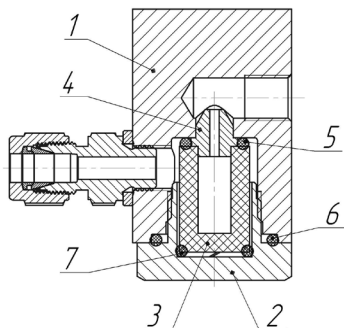

Figure 4. Filter
Design of the working fluid filter is shown in Figure 4.
8.4 Flush the pressure generator filter. To do this, unscrew the cover 2 on the filter (Fig. 4), and remove the filter element 3. Wash the filter element, filter cover and wipe the inner cavity of the filter with coarse calico dipped in pure gasoline (B 70 - TU 38.101913-82, Galosha - TU 38.401-67-108-92, Nefras - GOST 8505-80) and let dry. After that, install the filter element, the rubber seals and the filter cover in the reverse order (where necessary, replace the rubber seals and the filter element (not included in the delivery set)).